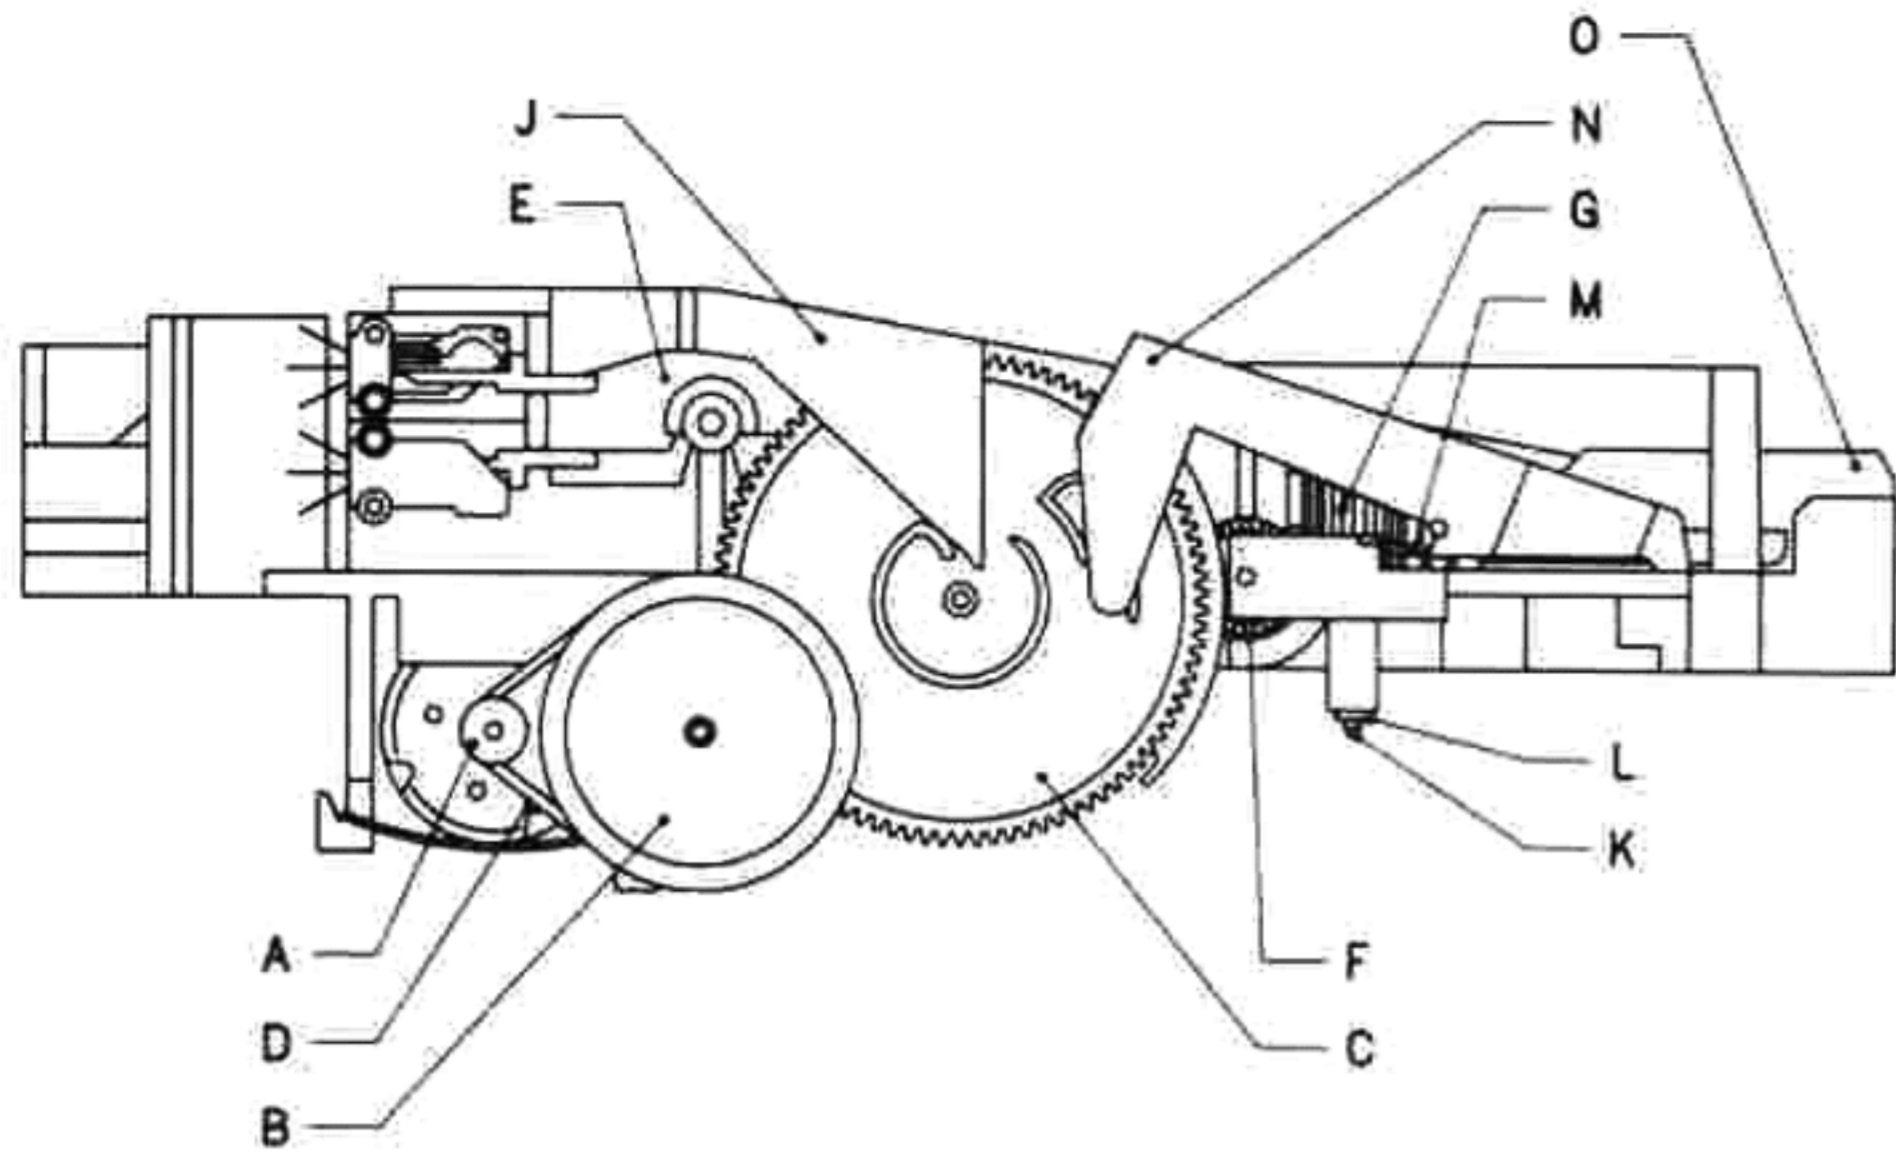
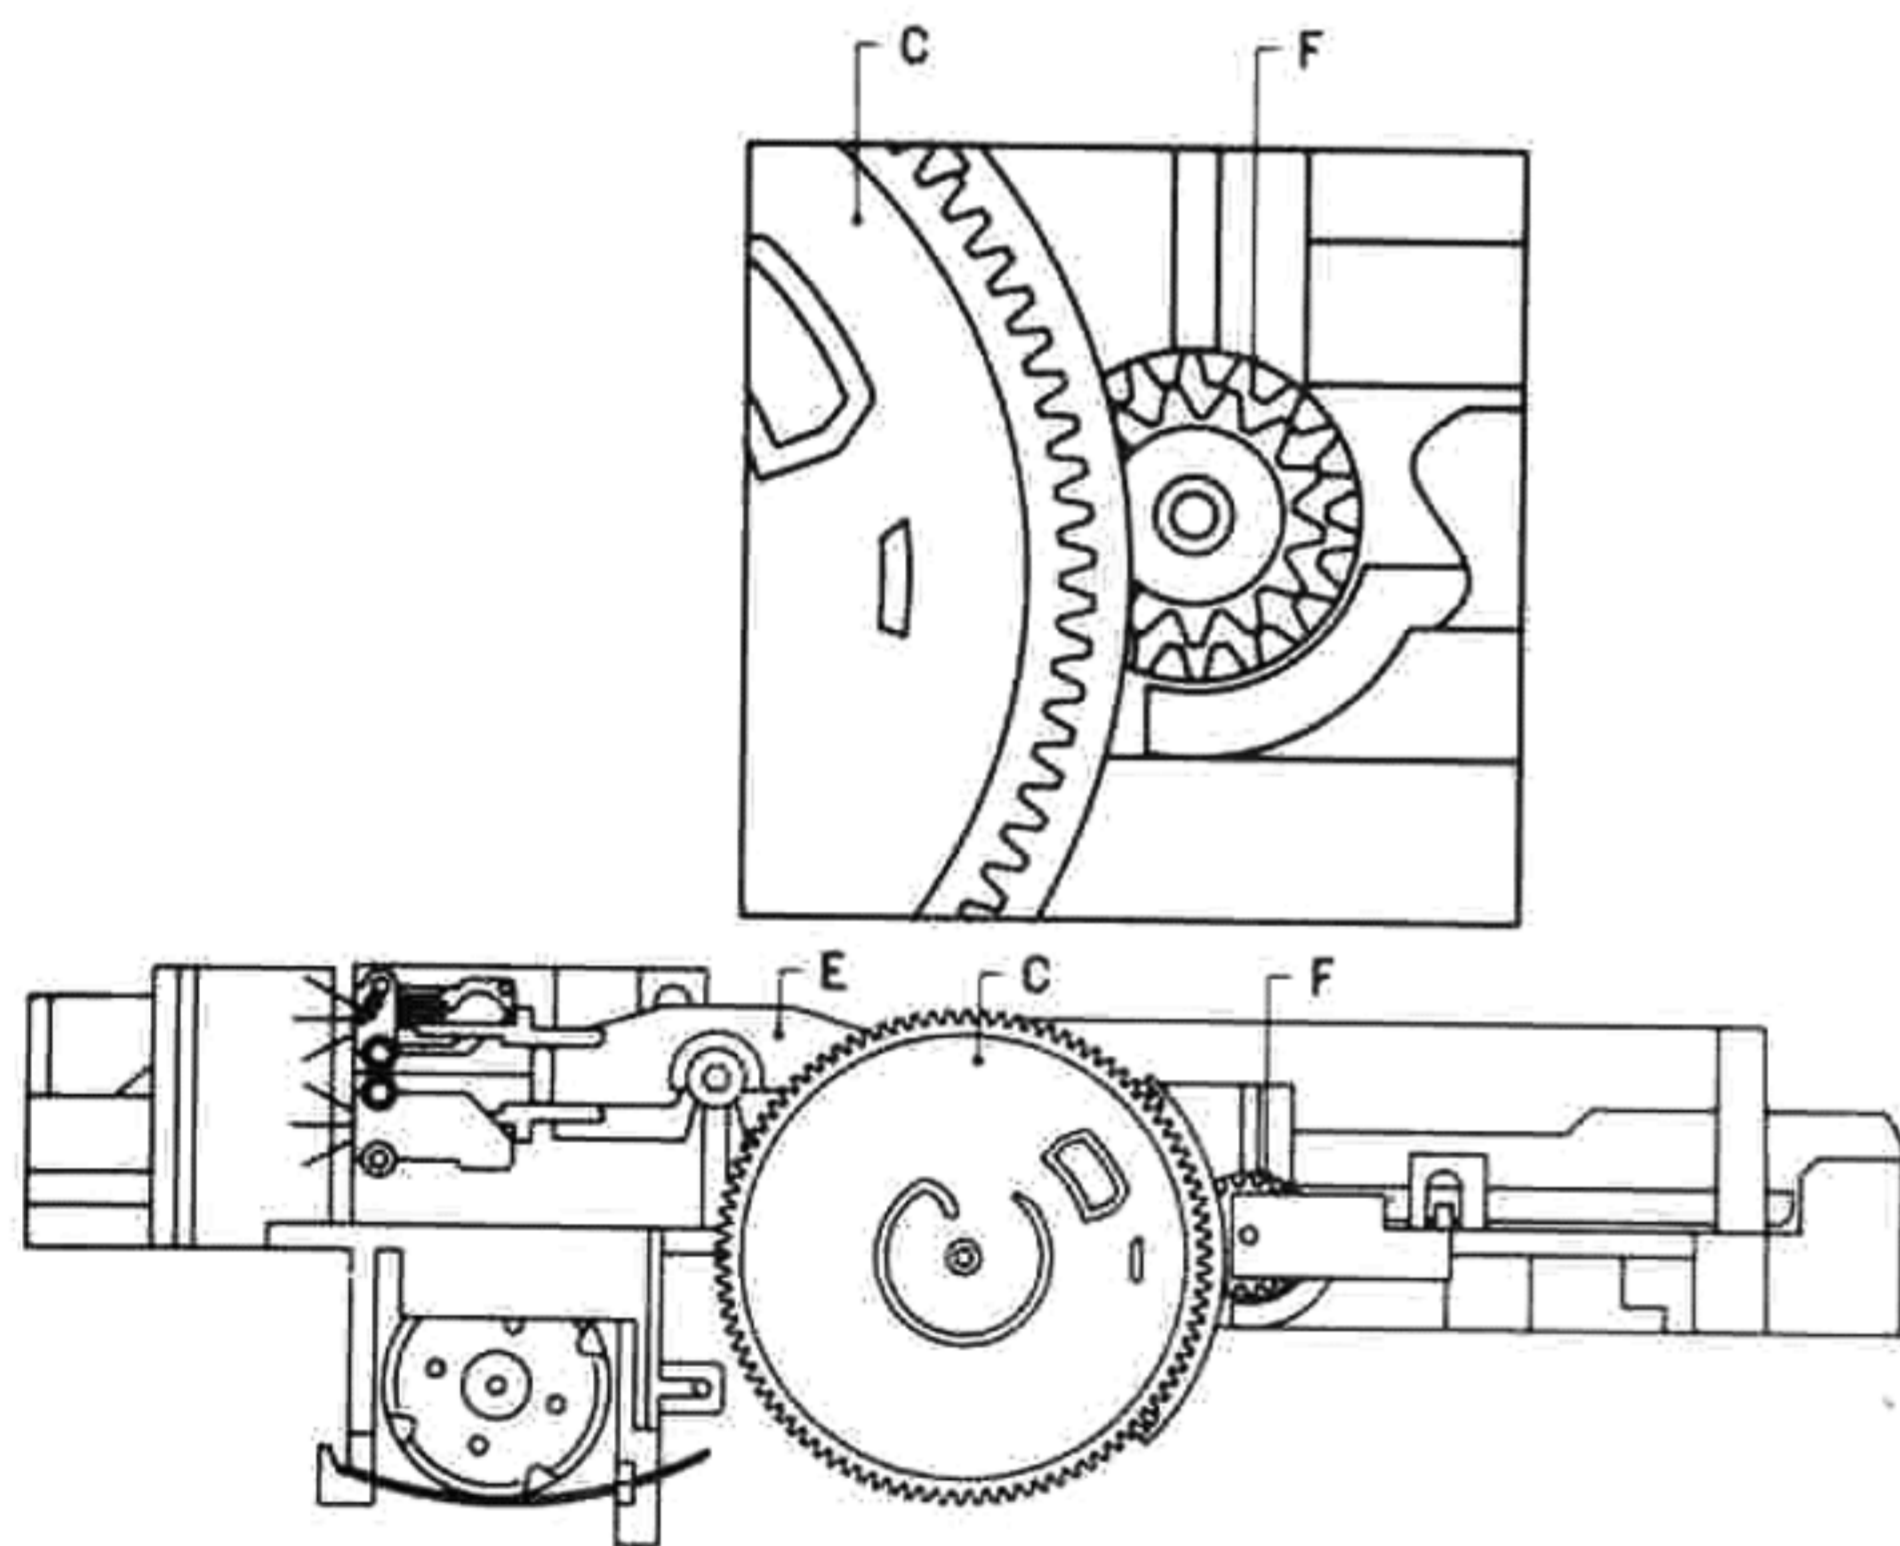

Fig. 1
Fig. 2
- Ensure that the aperture in gearwheel F is Vertical (see Fig. 1) and apply cam wheel C in the way described in Fig. 2.